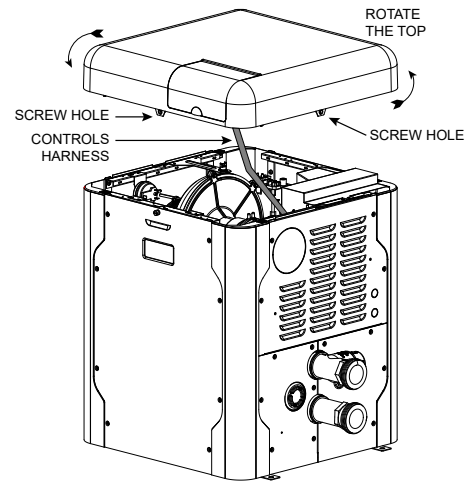

Figure 34. Heater Top Removal
To rotate the top, remove the (2) knurled screws holding the jacket top to the heater as shown below. Rotate the top to the desired position and reinstall the knurled screws to retain the jacket top. See **Figure 34** on page 27.
1. Remove the knurled screws from front and rear door. See **Figure 34**.